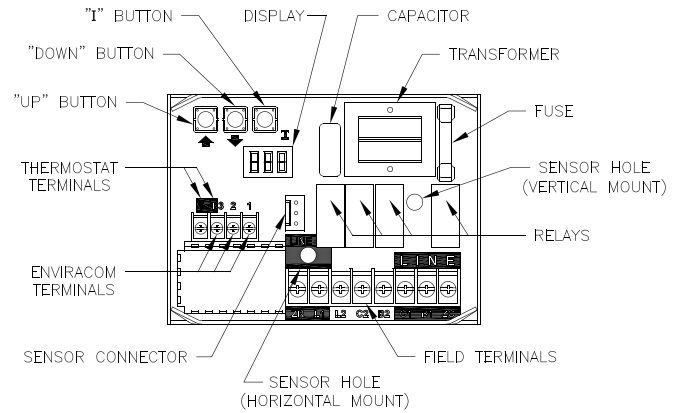

Figure 29: Intelligent Oil Boiler Control
- b. The boiler's sequence of operation is shown as Status Codes on Boiler Control display. See Table 7 and Figure 29.
- d. If the thermostat is not satisfied and the Operating Setpoint (SP) is reached the system circulator will continue to operate and the burner will stop. When the boiler water temperature drops below the setpoint less the differential setting the burner will restart.
- f. When an indirect water heater aquastat call for heat is wired to the "ZR" terminal the Boiler Control starts a domestic hot water circulator connected to the "ZC" terminal and when the boiler temperature is less than Operating Setpoint (SP), the boiler control energizes the oil primary to turn on the burner without circulator pre-purge delay.
- g. On burner start, if the CAD cell does not see flame within approximately 15 seconds, primary control will shut down the burner and enter into a lockout mode. A lockout is reset by pressing the reset button located on the primary control. If the flame is lost while the burner is firing, the primary control shuts down the burner, enters a 60 second recycle delay, and repeats the ignition sequence. If after three (3) trials for ignition, flame is not detected, primary control will enter into restricted mode. Restricted mode is reset by holding down the reset button for 15 seconds.